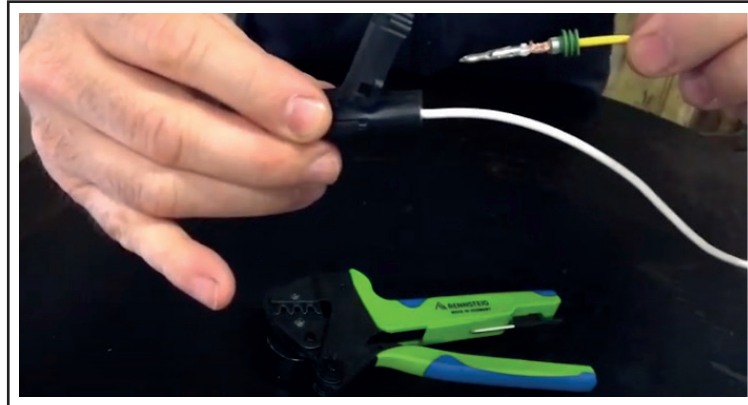

Figure 10 - Insertion of Male Terminal into the Male Housing
- 1.13. Insert the Male Terminal into the Male Housing and snap the retainer shut (see figure 10).